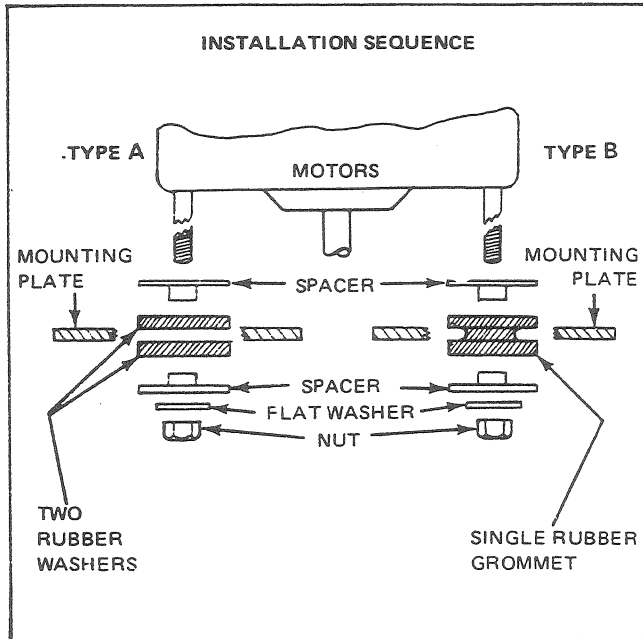

Fig. 15 - Article No. 116
19. Place cover in position on the main drive gear box housing and install one (1) short bolt to retain.
20. Position gearbox housing on mounting plate and install three (3) long retaining bolts.
21. Position cover over manual override gearbox and install two (2) screws. Test operation manually using knob.
22. a) Install one rubber washer and spacer on each mounting stud of new motor. (See Fig. 15) Position motor in